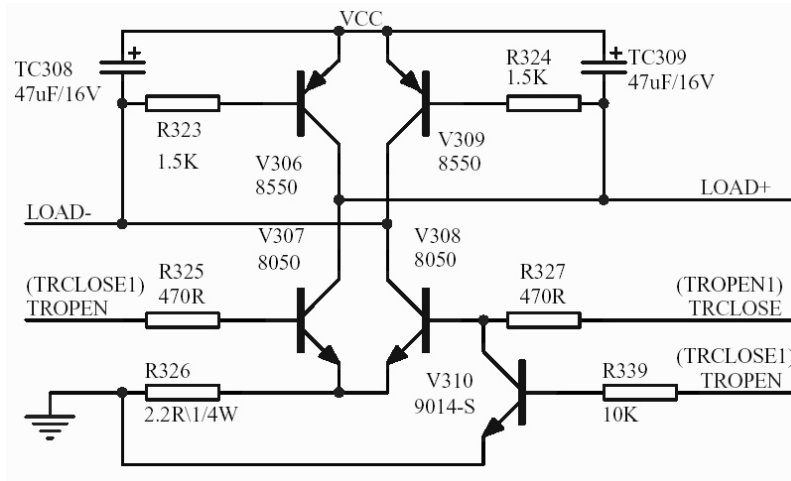

Figure 3.2.5.1 Disc in/out circuit diagram
1. Disc in/out circuit is shown as the following figure 3.2.5.1: